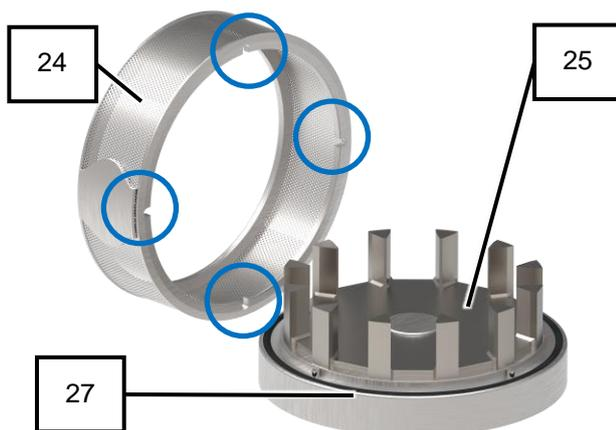

Fig. 21: Ring sieve and rotor
8. Place the rotor (25) around the rotor shaft (11) over the labyrinth disc (27).
9. Ensure that the driver is correctly engaged on the rotor shaft (11).
10. Place the ring sieve (24) in the cassette (26) with the rotor (25) in place (Fig. 21).
11. Ensure that the anti-rotation device is correctly engaged (Fig. 21).